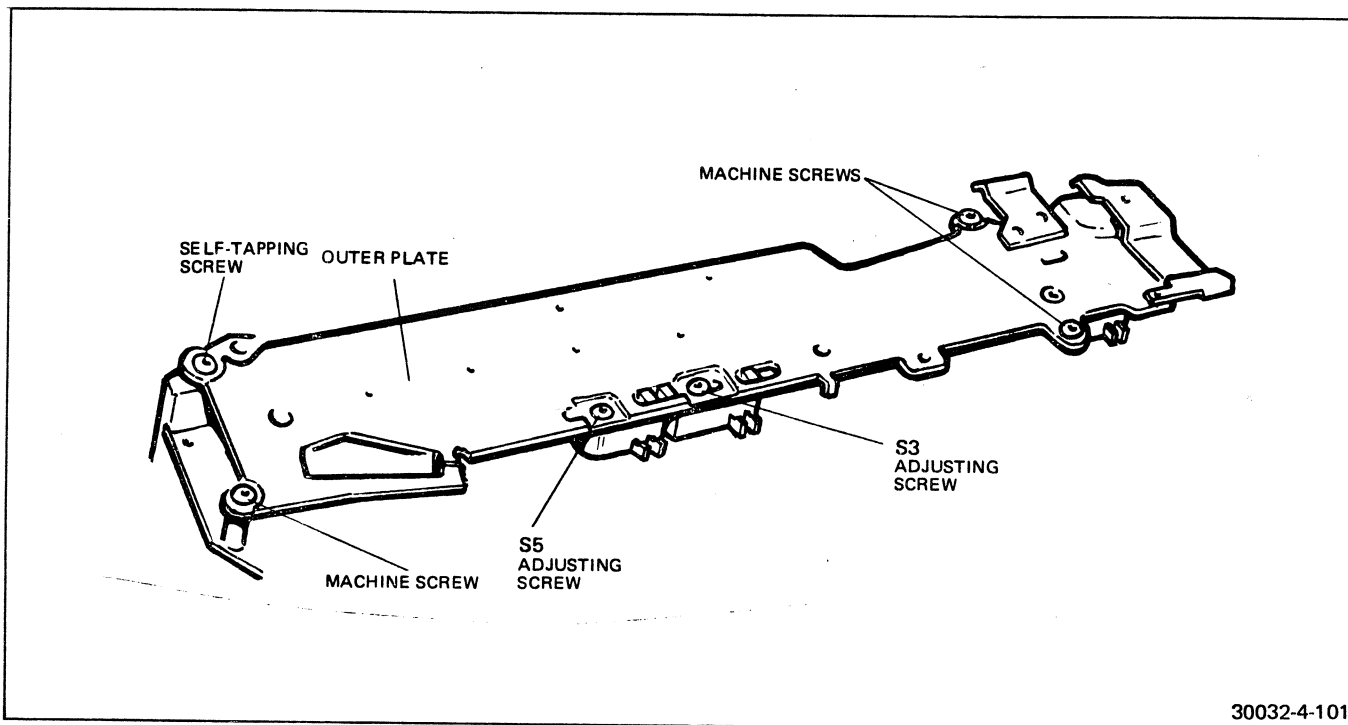

FIGURE 4-101 OUTER PLATE MOUNTING SCREWS
39. Replace the outer plate mounting screws (Figure 4-101).
50. Refer to Figure 4-101. Install but do not tighten the three machine screws and the self-tapping screw. Install a white spacer inside the outer plate at the self-tapping screw location.